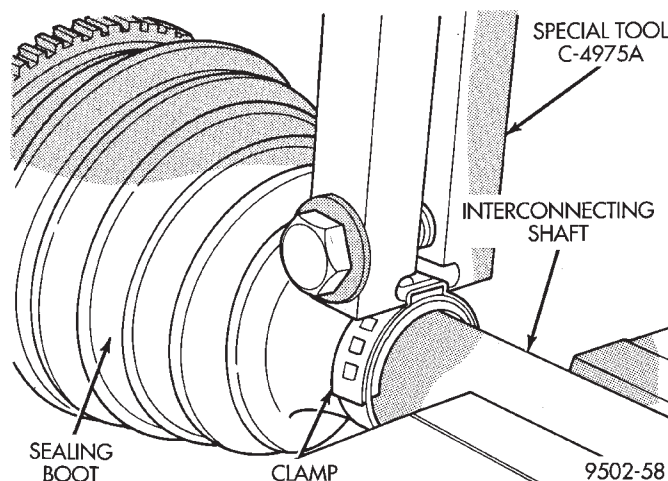

Fig. 35 Crimping Tool Installed on Sealing Boot Clamp
(6) Install inner tripod joint seal boot to interconnecting shaft clamp evenly on sealing boot.
(7) Clamp sealing boot onto interconnecting shaft using crimper, Special Tool C-4975-A and the following procedure. Place crimping tool C-4975-A over bridge of clamp (Fig. 35). Tighten nut on crimping tool C-4975-A until jaws on tool are closed completely together, face to face (Fig. 36).